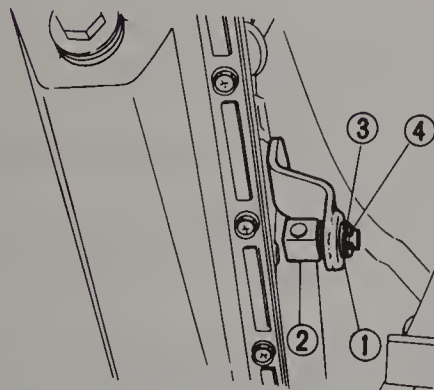

Fig. 7.22 Automatic shifter-to-transmission connector components (Sec 14)
*Refer to Figs. 7.22 through 7.24*